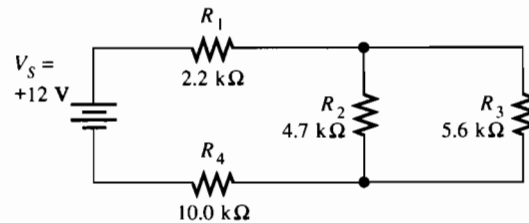

Figure 10–2
2. Connect the circuit shown in Figure 10–2. Then answer the following questions: